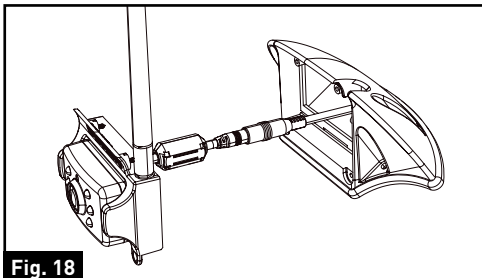

Fig. 18
10. Place the attached cables and connections into the bracket housing by first placing the cable to the right. (Fig. 18)